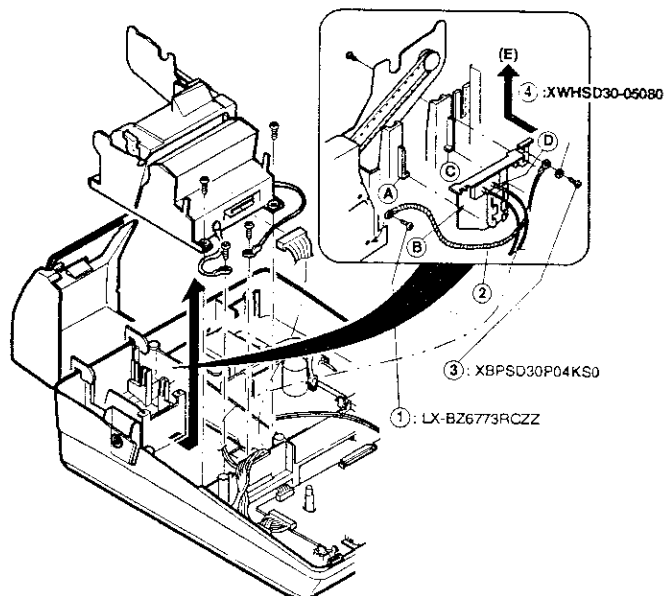

Fig. 2
5) Installing the sensor unit. (Fig. 2)
Fix the other end of the grounding wire (2) to the screw (1) hole in the right rear side of the R/J printer. (Fig. 2)